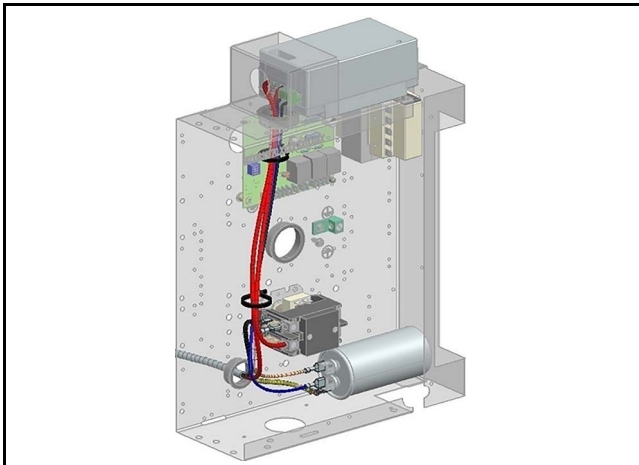
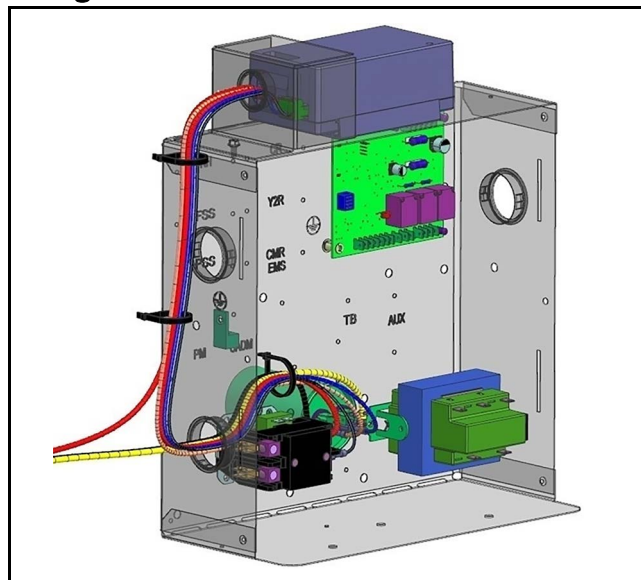

Fig. 10 Overview of Wiring Layout with SSA Installed (SM model)
Fig. 15 Overview of Wiring Layout with SSA Installed (LM model)
Electrical Box (e-box) shown in Fig. 10 and Fig. 15 are for reference only. The actual components in the unit's electrical box vary depending on the installed options.
2. Locate Smart Start Assist metal cover and make sure all wires that are to be terminated on the Smart Start Assist terminal block pass through the 7/8" bushing. Refer to Fig. 15.